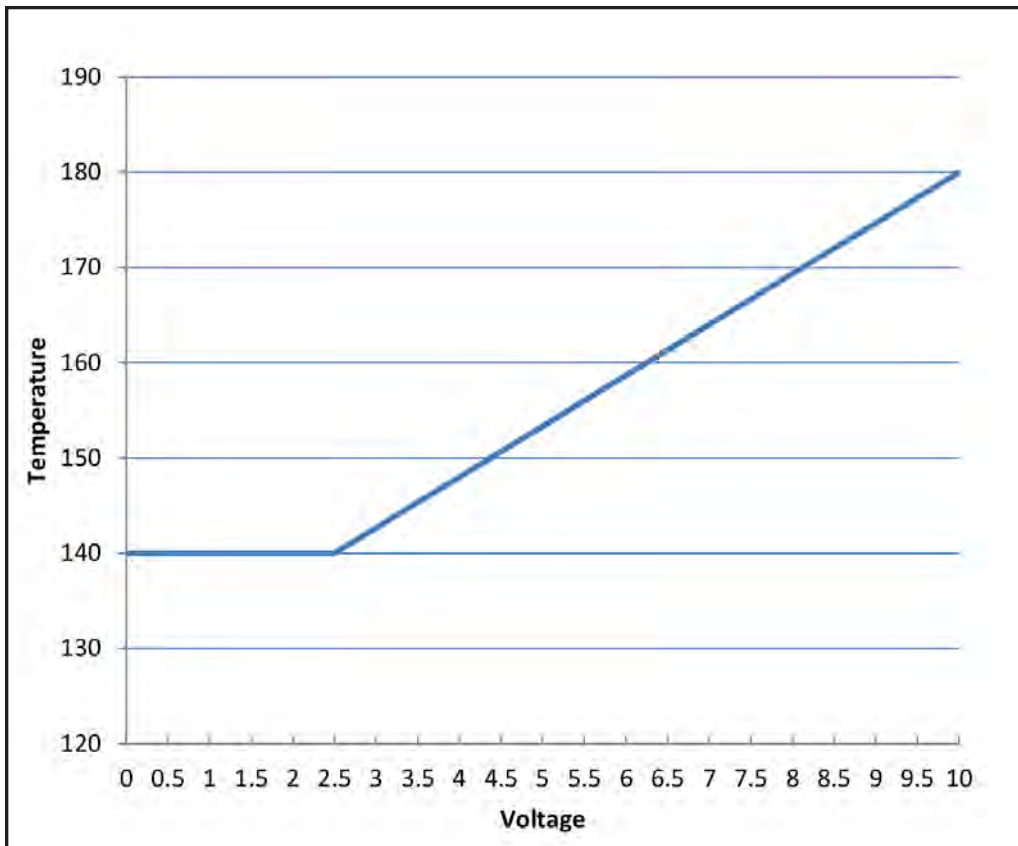

Figure 42. External Setp Point Example
- Using the default values for Boiler Max Set Point (180°F), Boiler Min Set Point (140°F), Demand Minimum (2.5VDC), Demand Maximum (10.0VDC), the unit will linearize the set point, as shown in **Figure 42**.